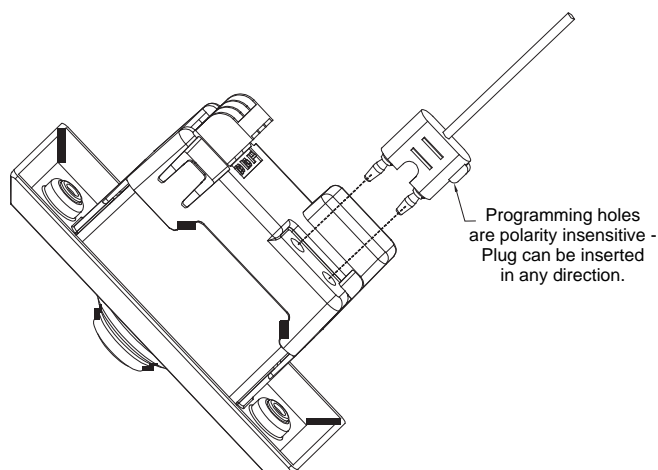

Figure 2
1. Refer to Figure 2 to locate the programming holes on back of the TSM-1X.